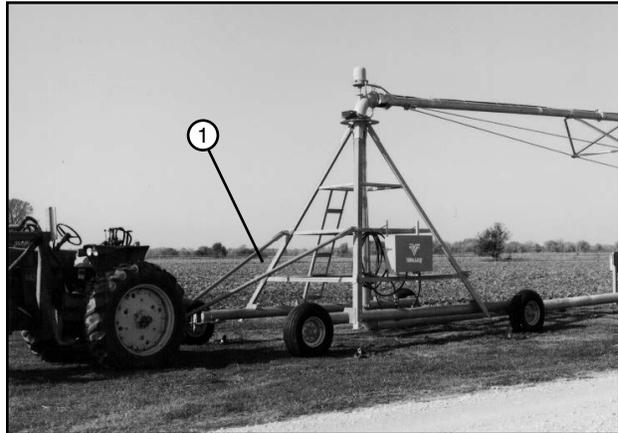

Figure 60-1 1. Tongue
18. After the pivot and drive units have been prepared for towing, hook tongue to the towing unit. See Figure 60-1.